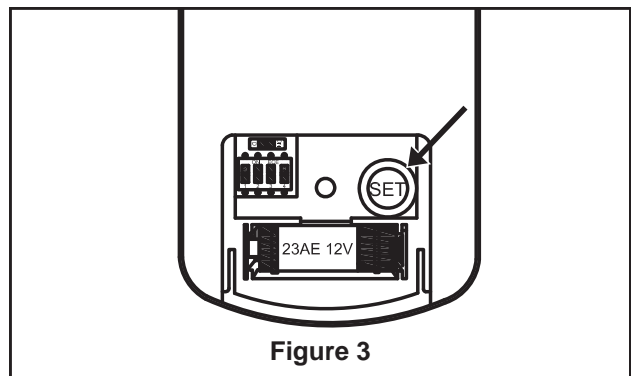

Figure 3
3. **Remote Control Setting and Speed (RPM) Setting Process : (Figure 3)**